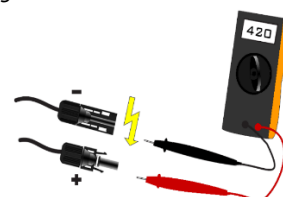

Fig. 17 Multimeter – Polarity checking
**Note** Check the solar PV array's positive and negative terminal in multimeter, make sure that the polarity is correct as shown in the fig. 17.